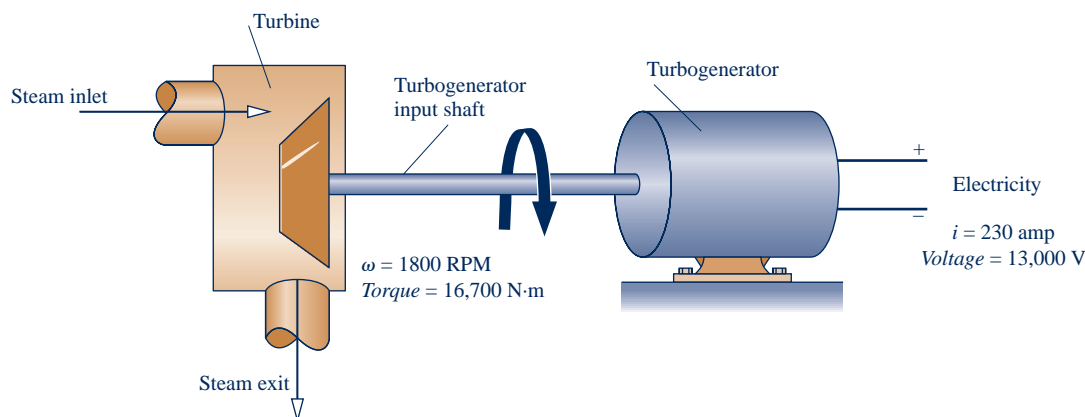

Fig. P6.59
6.59 A power plant has a turbogenerator, shown in Fig. P6.59, operating at steady state with an input shaft rotating at 1800 RPM with a torque of $16,700 \text{ N} \cdot \text{m}$. The turbogenerator produces current at 230 amp with a voltage of 13,000 V. The rate of heat transfer between the turbogenerator and its surroundings is related to the surface temperature T_b and the lower ambient temperature T_0 , and is given by $\dot{Q} = -hA(T_b - T_0)$, where $h = 110 \text{ W/m}^2 \cdot \text{K}$, $A = 32 \text{ m}^2$, and $T_0 = 298 \text{ K}$.